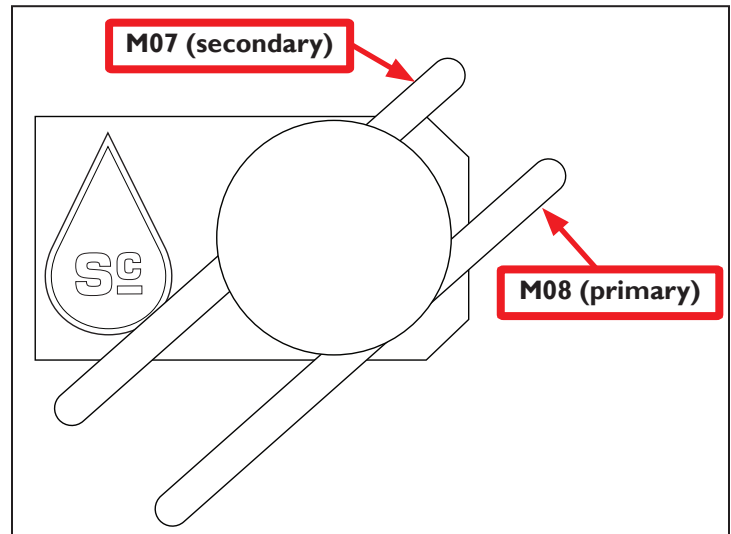

Figure 27
The SmartCool Head Unit has two slots for coolant sources (see **Figure 27**):
4. Ensure primary coolant source is installed in bottom slot of SmartCool Head Unit's hub (see **Figure 27**).